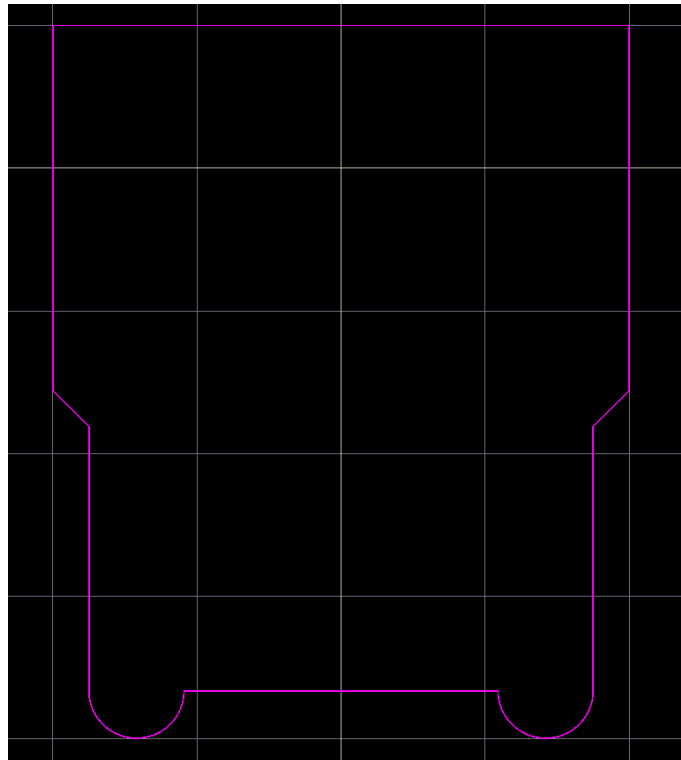

Figure 13. Imported DXF outline
45. After clicking on **OK**, the board shape will be imported similar to Figure 13.